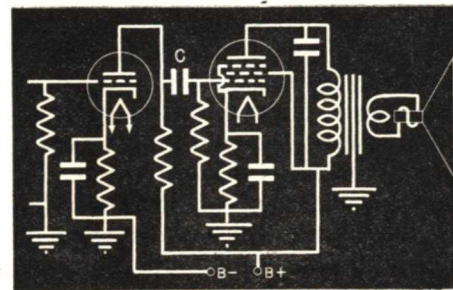

FIG. 10. A typical resistance-coupled audio stage.
► Notice—either of the conditions just described would cause noise, rather than intermittent reception, if it occurred frequently enough. For example, if one of the connections to coupling condenser *C* in Fig. 10 were to open, then close again in a few seconds, the signal level will jump up and down, and you would diagnose the condition as intermittent reception. But if exactly the same effect occurred much more frequently—say several hundred times a second—the set would be noisy. Similarly, other rapid open-and-closing actions will produce noise, while a slower tempo will cause another form of intermittent reception. For instance, if the screen grid by-pass opens and closes